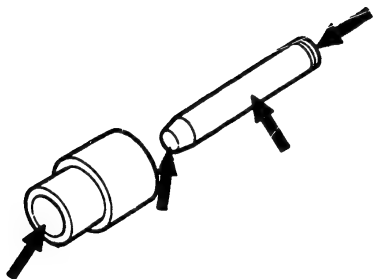

Fig. 74 Pin
5. Check that the pin's surface and both tips are not worn, scratched or damaged excessively. Replace the pin if defective. (Fig. 74)